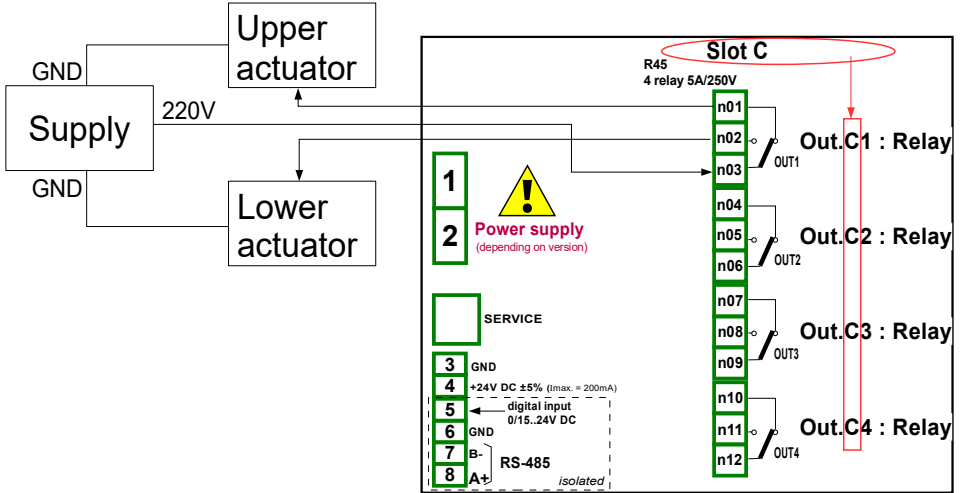

Fig. 7.73. Schematic diagram for the **R45** module
Before connecting a relay to the device, the user should configure the device, and then connect them as it is shown in **Fig. 7.73**. After setting the configuration of the physical inputs we can configure the input channel to read the output value.
- **Source** parameter set as **Out. C1: Relay** (see the connection in **Fig. 7.73**),